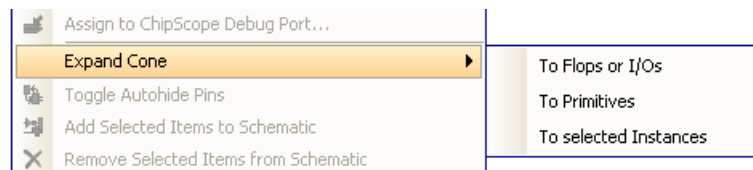

Figure 4-51: **Expand Logic Cone**
- Use the **Expand Cone** command from the popup menu to expand the cone of logic from a selected pin or instance, or between two selected instances. Expansion of logic can go beyond hierarchical boundaries. The available **Expand Cone** options, as shown in Figure 4-51, are: